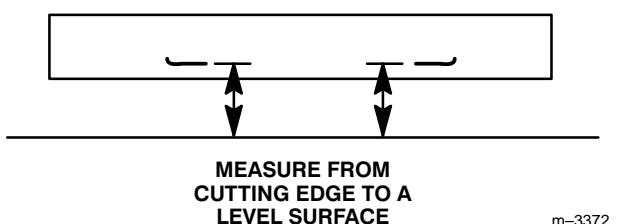

Figure 21
1. Rotate the blades until the ends face forward and backward (Fig. 20). Measure from a level surface to the cutting edge of the blades (Fig. 21). Note this dimension.